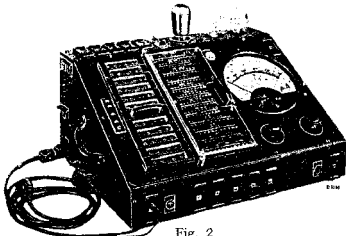

Fig. 2.
3. An output indicator, i.e., triode voltmeter connected in parallel with the loudspeaker. The output indicator in the testing apparatus, Type 4256 (fig. 2) is, of course, quite suitable. An adaptation box for connecting meters (G.N.2295) can also be supplied.
Fault finding will be considerably facilitated by the use of efficient testing apparatus. Attention is drawn to Philips' Universal Measuring Test Board (fig. 2)